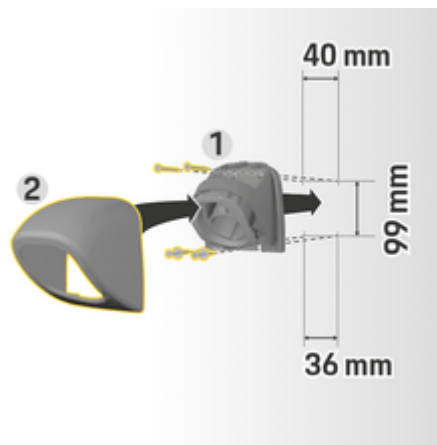

Fig. 10 Drilling dimensions
1. Remove plug holder 1 from the cover (Fig. 10) 2 (Fig. 10).
4. Screw the plug holder 1 (Fig. 10) to the wall.
5. Fit the cover 2 (Fig. 10) onto the plug holder 1 (Fig. 10) from below and press it upwards.